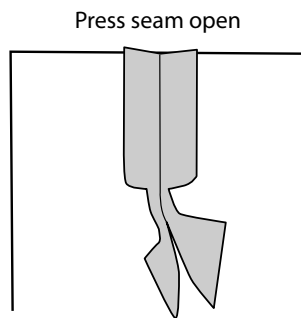

Figure 29
1. Machine baste zipper placket opening together along center front seam line. Machine backstitch to reinforce seam, and continue stitching below opening for 2 to 3 inches. Press seam open to just below attached fly. (Figure 29)